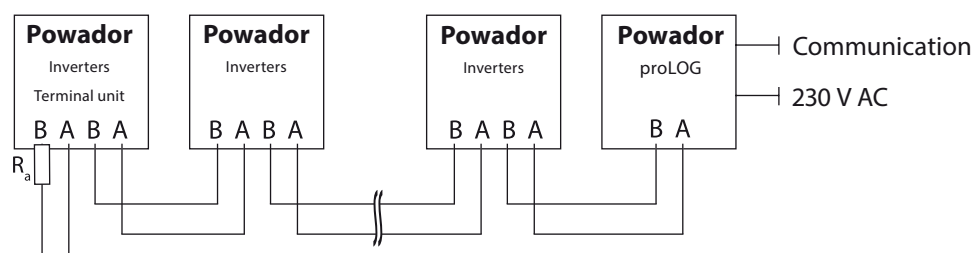

Figure 14: RS485 interface wiring diagram
- Wire B (+) with wire B (+) (see Figure 14 on page 26)